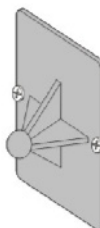

Fig. 14
4. Screw the mount to the wall in the direction shown in figure 14.